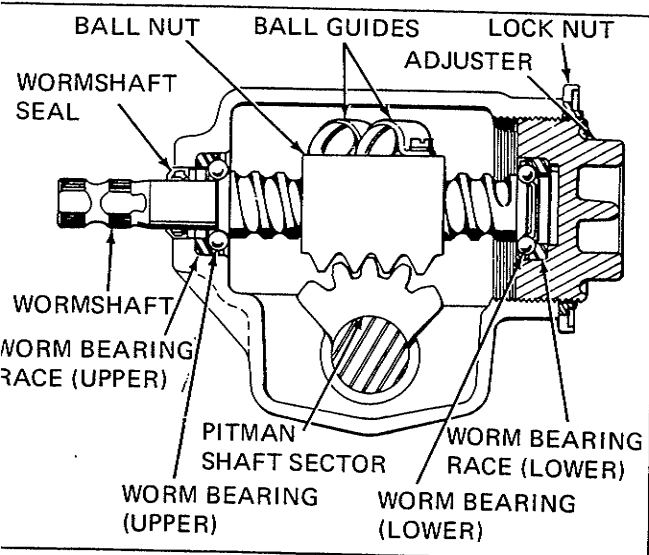

Figure 48. Steering Gear (Side View)
### Steering Gear Disassembly (Figures 48 and 49)
**Steering Gear Bench Adjustment (Figures 48 and 49)**